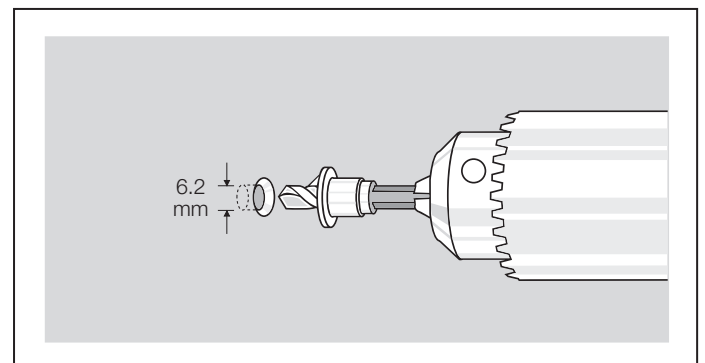
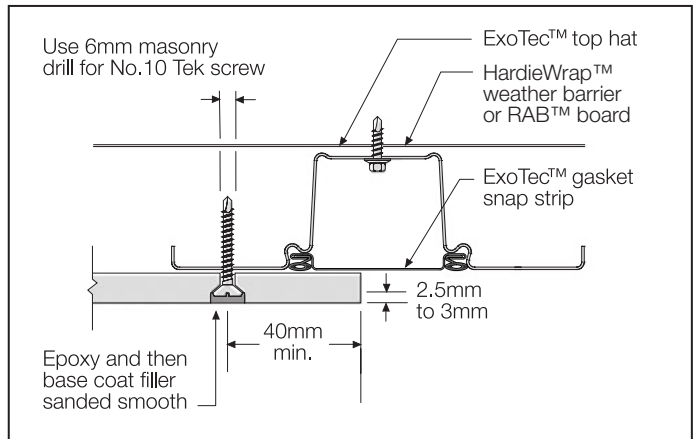

FIGURE 10 DRILL COUNTERSINK HOLE
FIGURE 15 COUNTERSUNK FASTENER DETAIL
- Drill clearance holes into ExoTec™ facade panel, for No.10 gauge screws using a 6mm countersunk masonry drill, which provides a 6.2 to 6.3mm diameter hole, see Figure 10. Countersink hole to a depth of 2.5mm to 3mm. This is measured from the top of the screw to the top of the sheet, see Figure 15.